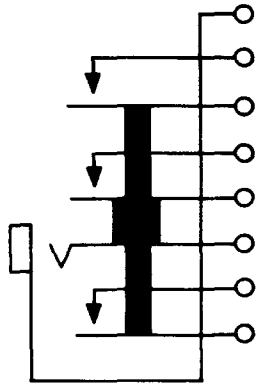

Fig. 3—355C Jack
2.03 **355C:** This single-mounted jack (Fig. 3) is to be mounted with the springs in a vertical plane and is arranged to be used with the 347 or similar-type plugs.